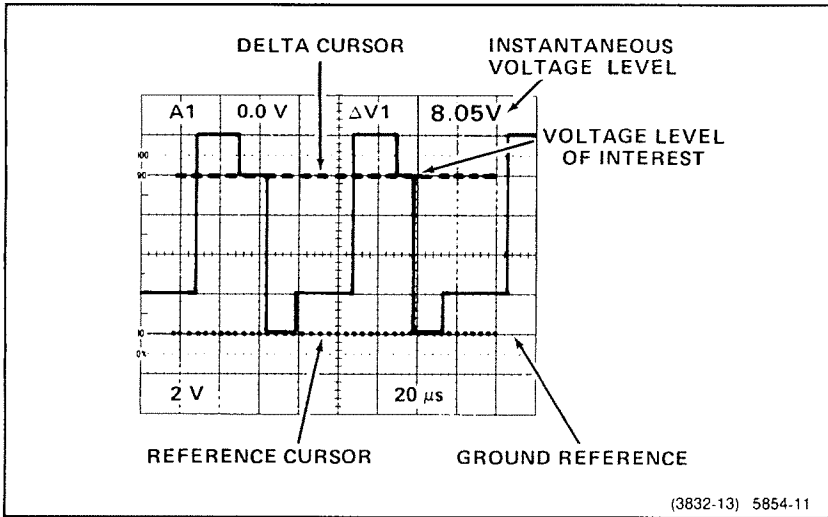

Figure 3-1. Instantaneous voltages.
3. Switch Input Coupling to DC and set the Δ cursor to the point of interest. (See Figure 3-1.)